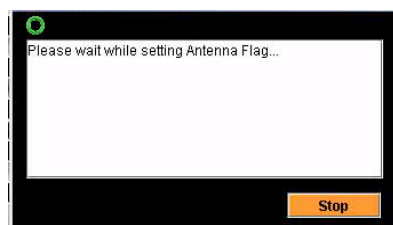

Figure 5-12 Setting Antenna Flag Window
- a. First, parameters are sent to the PacketWave 200; then the unit is reset and the antenna alignment flag is set. This takes a few minutes of time, during which the window shown in *Figure 5-12* will be displayed.